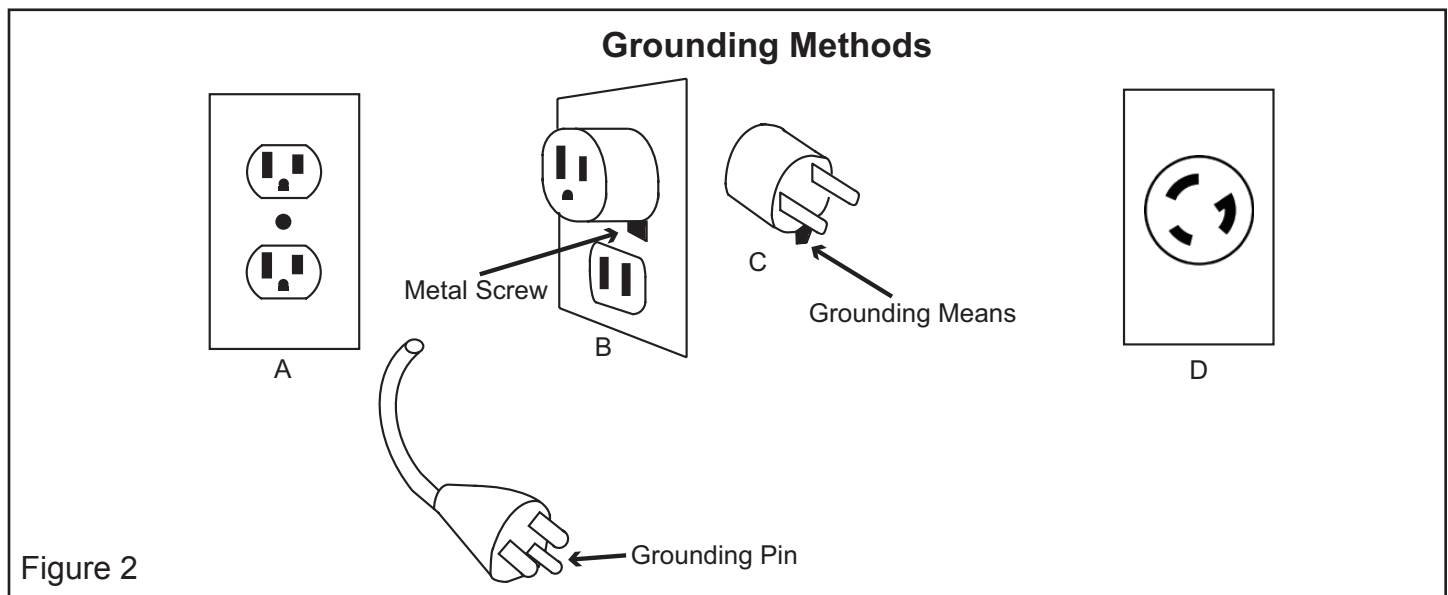

Figure 2
2. Connect the fan heater to the proper electrical power. See Grounding instructions (Page 8 Figure 2)